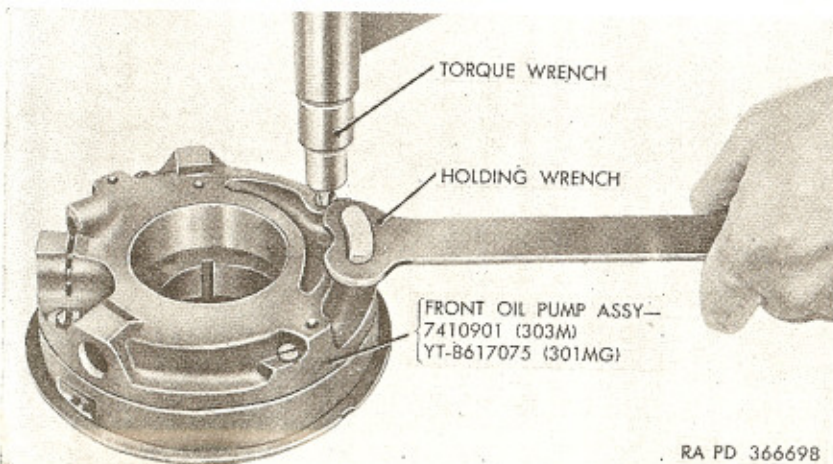
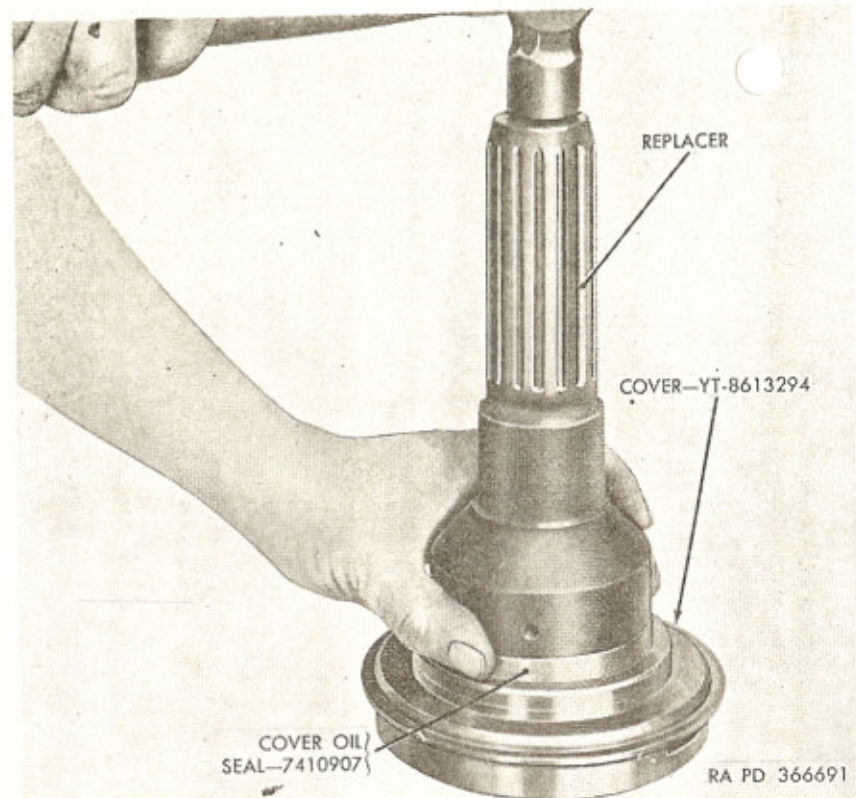

Figure 86. Use of holding wrench—B7950328 at front oil pump.
Figure 94. Installing front oil pump oil seal using replacer—C7950561.
a. Place front oil pump assembly on work bench with cover side down. Hold pump body with holding wrench—B7950328 (fig. 86) while removing four bolts (S) and lockwashers (R).
i. Install four $\frac{1}{4}$ x 1 bolts (S) and No. 12 internal-teeth lockwashers (R) attaching body to cover. Hold pump body with holding wrench—B7950328 (fig. 86) while tightening bolts to 12 to 15 pound-feet torque.
k. Install oil seal ring (A) in ring groove of pump cover.
l. Apply thin film of sealing compound to outer surface of cover oil seal (B-1) and oil seal bore in pump cover. Position new cover oil seal (B-1) in pump cover with lip of seal toward cover. Using replacer—C7950561 (fig. 94) drive oil seal into cover until fully seated.